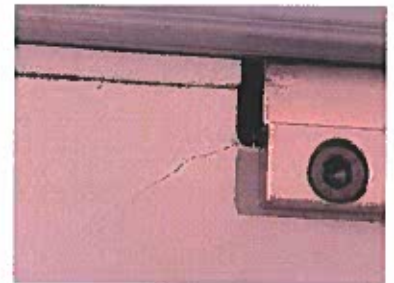

Figure 2
- In case of cracks in the FlexMove Carriage (see Figures 2 and 3), please contact Philips so that inspection of your system can be prioritized.